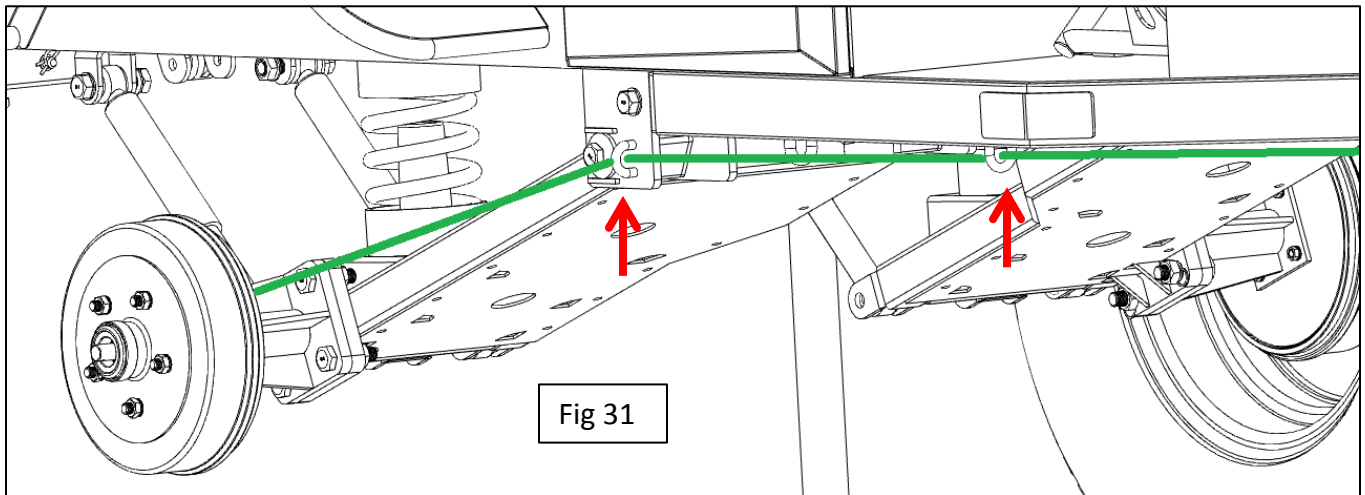

Fig 31
29. Make sure parking brake lever is down all the way and adjustment screw is loosened. You will want the adjustment screw to be able to mostly tighten the cable while still having some adjustability to loosen the cable. Route parking brake cable thru the guides in the tongue and the frame, keeping the cables as high as possible. End of cable will go thru the loop on the brake actuator arm on the brake drum, then it will loop back on itself. Pull the cable as tight as possible and secure with wire rope clips. The U-bolt side will go on the dead end of the clip and the saddle will go on the live end. Fig 31, Green line indicates where the brake cable will lay. Fig 32 shows correct orientation of the u-bolt and saddle. It is easiest to secure one side then remove slack and secure the opposite side.